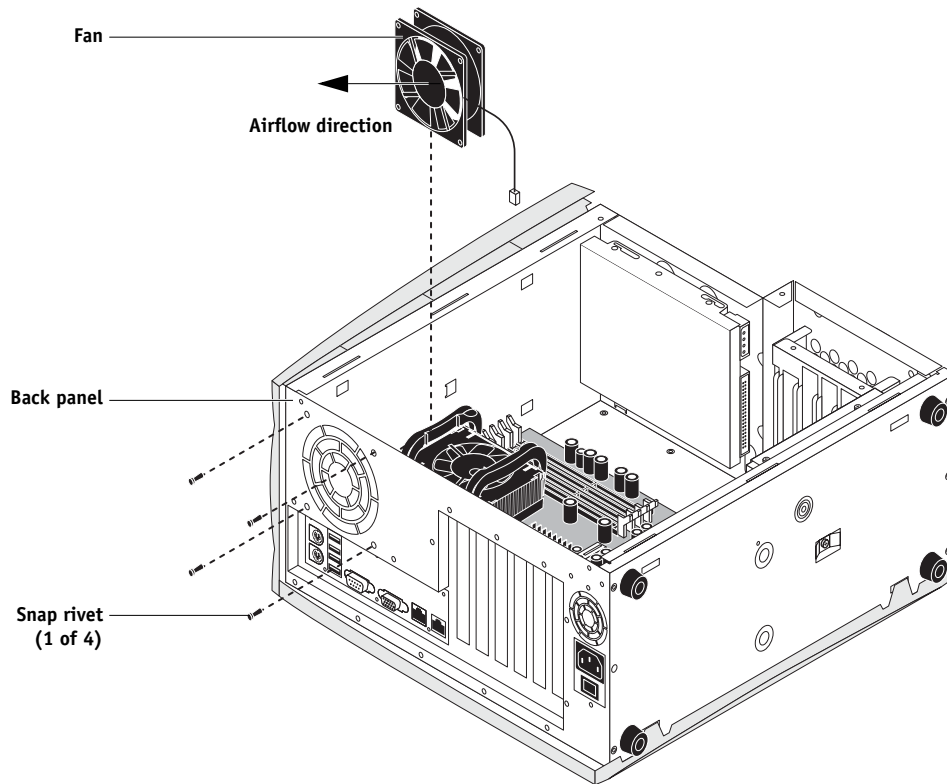

FIGURE 4-25 Removing the back panel fan
1. **Position the fan on the inside of the back panel so that the mounting holes line up with the four holes on the chassis (see Figure 4-25 on page 4-43).**
3. **Connect the fan cable to the motherboard connector FAN1 (see Figure 4-25 on page 4-43).**
5. **Make sure the fan vent on the back panel is emitting air. If the fan vent is not emitting air, the fan is oriented incorrectly, unplugged, or faulty (see Figure 4-25 on page 4-43).**